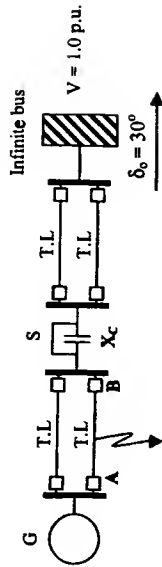

Fig. 4
4. In the system shown in Figure 4, a three-phase fault occurred on one of the transmission lines at the middle point. The switch S is opened simultaneously with circuit breakers A and B. Find the critical clearing angle.